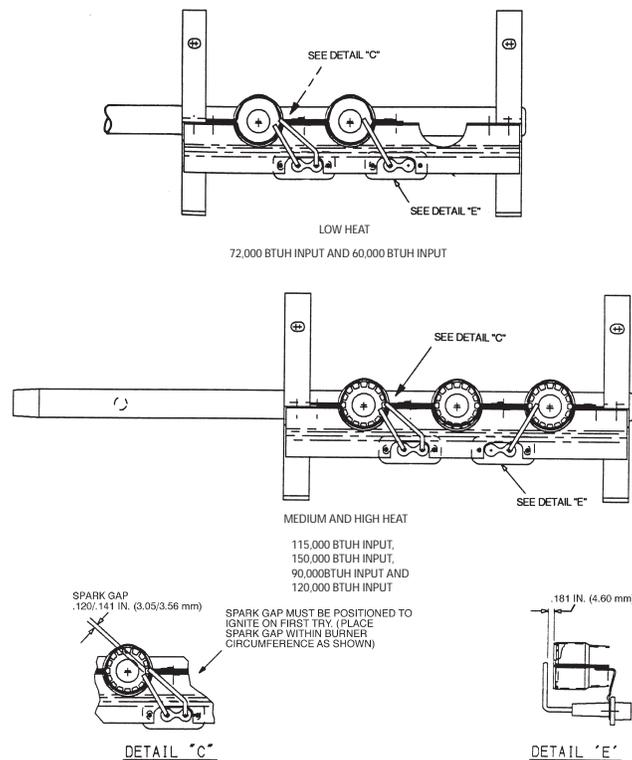
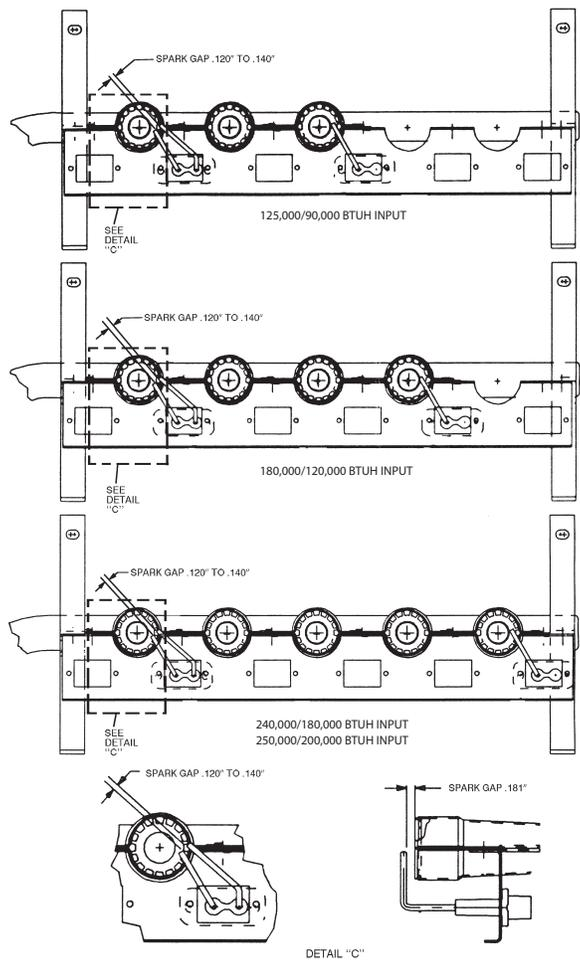

Fig. 35 - Spark Adjustment (04-07)
Fig. 36 - Spark Adjustment (08-12)
4. Adjust spark gap. (See Fig. 35 and Fig. 36.)